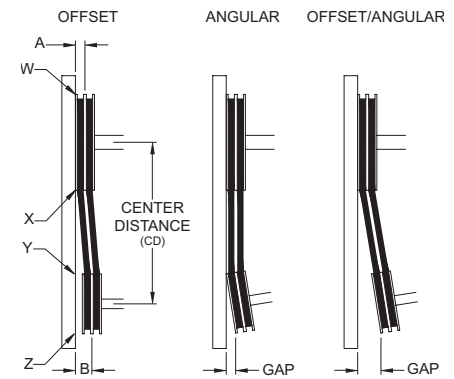
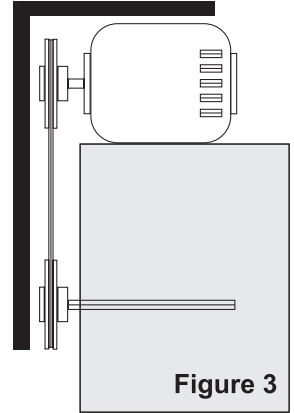

Figure 2
Figure 3
4. Ensure pulleys are properly aligned. Refer to *Figure 2*.
Pulley alignment is adjusted by loosening the motor pulley setscrew and by moving the motor pulley on the motor shaft. *Figure 2* indicates where to measure the allowable gap for the drive alignment tolerance. All contact points (indicated by WXYZ) are to have a gap less than the tolerance shown in the table. When the pulleys are not the same width, the allowable gap must be adjusted by half of the difference in width. *Figure 3* illustrates using a carpenter's square to adjust the position of the motor pulley until the belt is parallel to the longer leg of the square.
3. Slide new bearings onto the shaft to the desired location *Figure 3* and loosely mount bearings onto the bearing support. Bearing bolts and setscrews should be loose enough to allow shaft positioning.